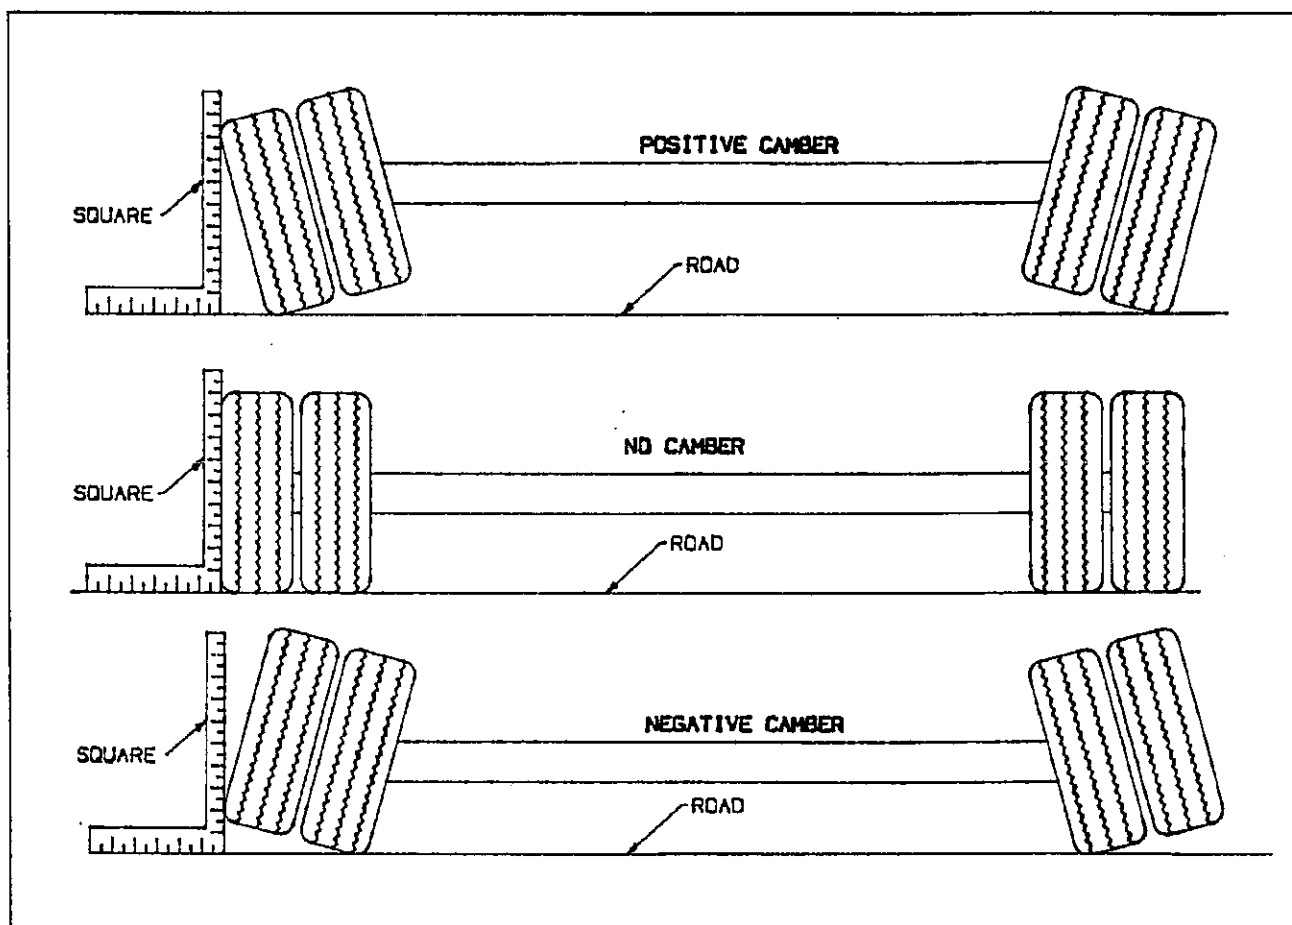

Figure 4-6 Examples of Camber
- d. Follow the same procedures as in Paragraph 4-8.1 b and c, except place the axle gauge above and below the axle. If gauge point gap is found, the axle has positive or negative camber. The semitrailer axle has no camber from the factory. If it is found to have positive or negative camber, axle replacement is necessary (see Figure 4-6 for examples of camber).